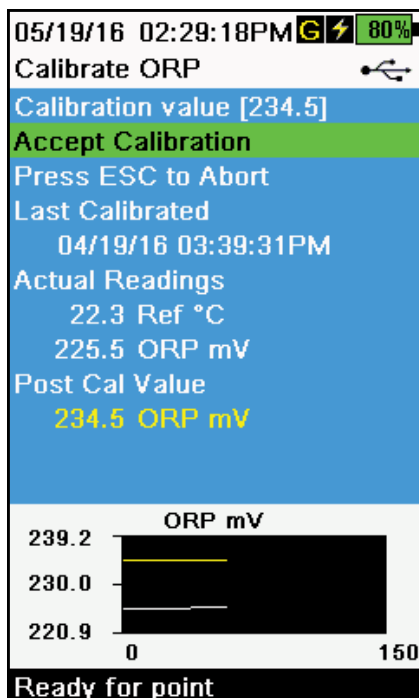

Figure 39 Calibrate ORP
7. Observe the actual measurement readings for stability (white line on graph shows no significant change for 40 seconds), then select **Accept Calibration** (Figure 39). "Calibration successful!" will be displayed in the message area.